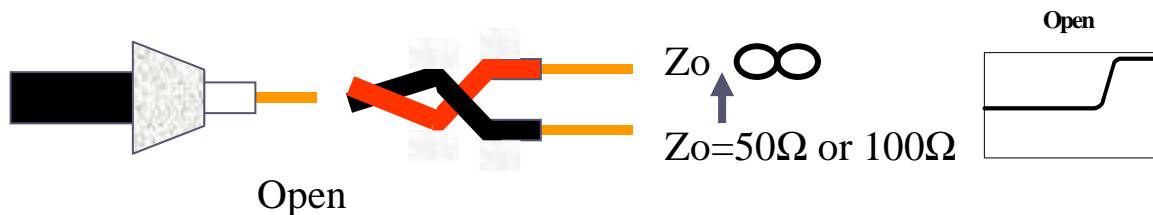

Figure 2-2
Impedance (Z) is simply defined as the resistance a conductor offers to AC frequencies and measured in Ohms. Also known as characteristic impedance it is designed in at the time of manufacture. Figures 2-2 and 2-3 show the effect of an open or short has on the cable's impedance. A Step TDR's trace will react per the display on the right. The reading will change from the horizontal normal impedance reading to either the maximum Ohms for an open or down to 0 Ohms for a short.